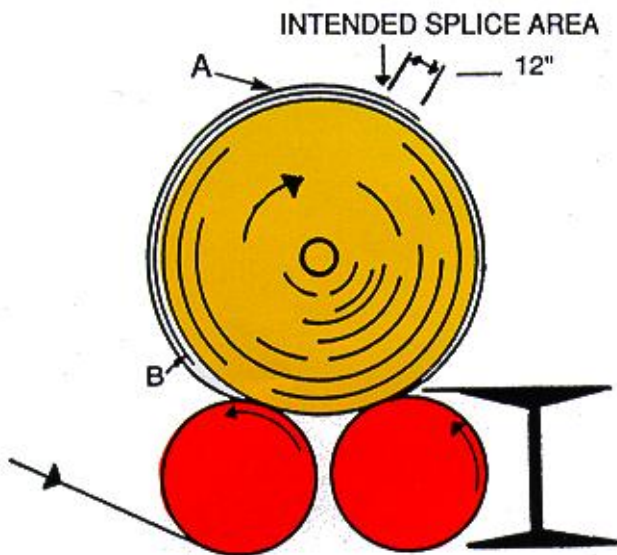

Figure 11
3. Tear off excess new tail "A" about 12" from intended splice area. Figure 11.
3. Tear off excess new tail "A" about 12" from intended splice area. Figure 11, Page 8.